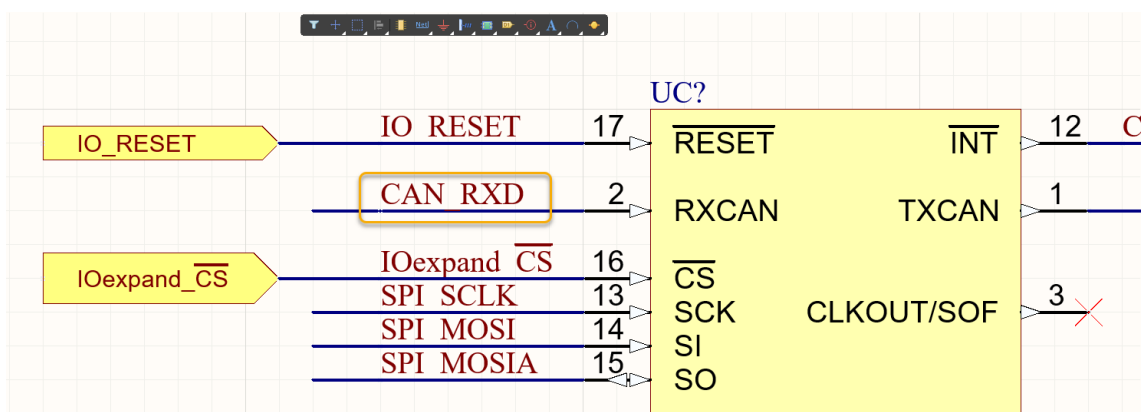

Figure 29. `CAN_RXD` Net Label placement
44. Place another instance of the `CAN_RXD` Net Label on the wire attached to UC1-2 to create a logical connection between `CAN_RXD`, as shown in Figure 29.